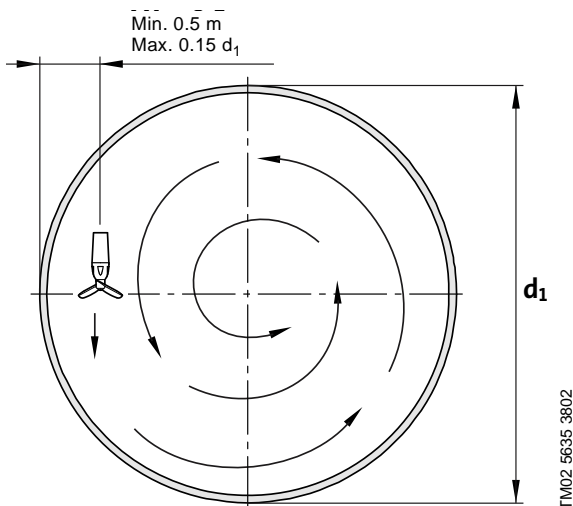

Fig. 29 Solids are kept suspended in the liquid of a circular tank
- A steady, circulating flow preventing sedimentation of solids is generated. See fig. 29.